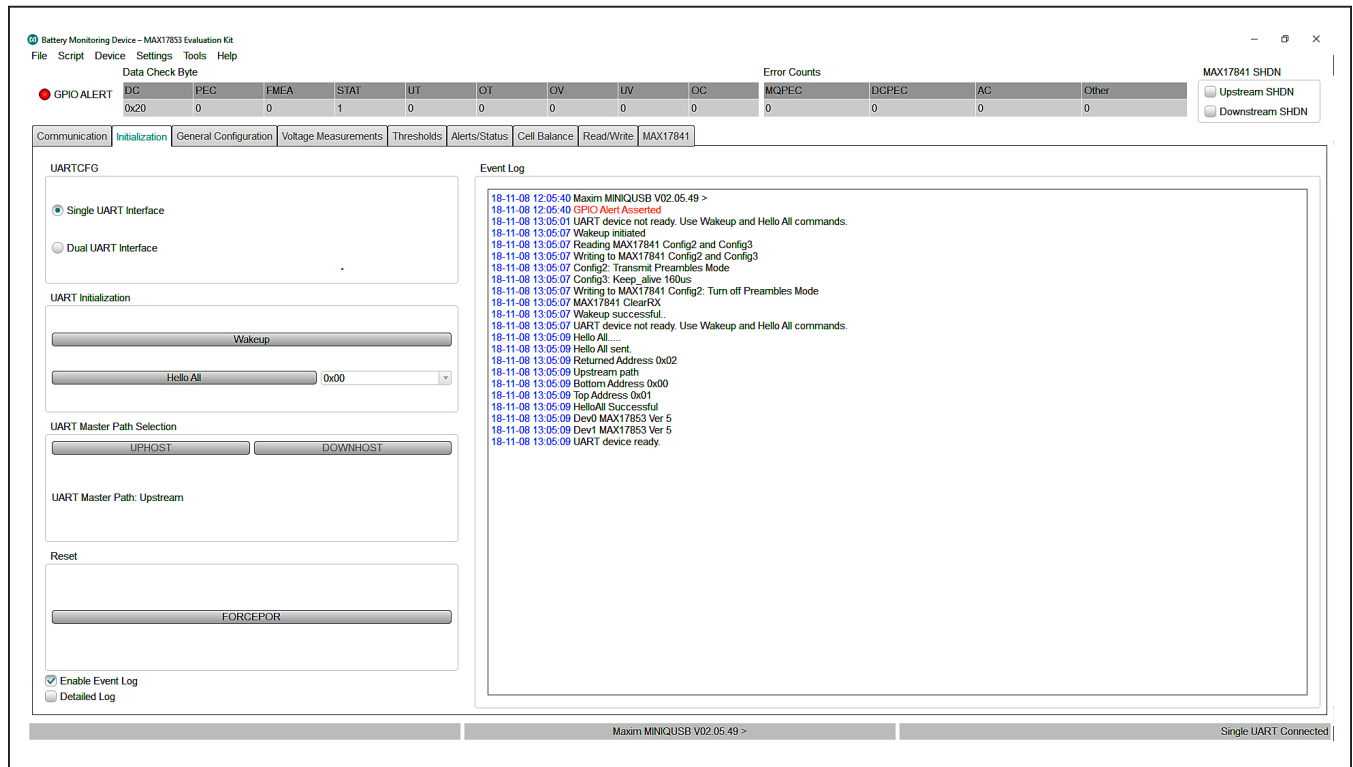

Figure 13. Initialization Tab
- 14) Select the **Initialization** tab (Figure 13).
The **Initialization** tab (see Figure 13) is used to initialize the system and assign addresses to each device in the daisy-chain. The correct **Single UART Interface** or **Dual UART Interface** radio button must be selected for the hardwired system. Communication will only be established when the wired system aligns with the interface chosen from the **UARTCFG** group box. With the **Dual UART Interface** radio button selected, the user has the option of selecting **UPHOST** or **DOWNHOST**. Further information on UPHOST and DOWNHOST communication is available in the *MAX17853 IC data sheet*. The **Wakeup** button initiates the communication process and the **Hello All** button assigns the device addresses.
- 1) Set up hardware and run GUI according to the Quick Start \(Single UART\) section. **HelloAll Successful** and **UART device ready** response must be displayed in the **Event Log** on the **Initialization** tab (Figure 13). Be sure to set the supply voltage to 18.0V for this procedure.